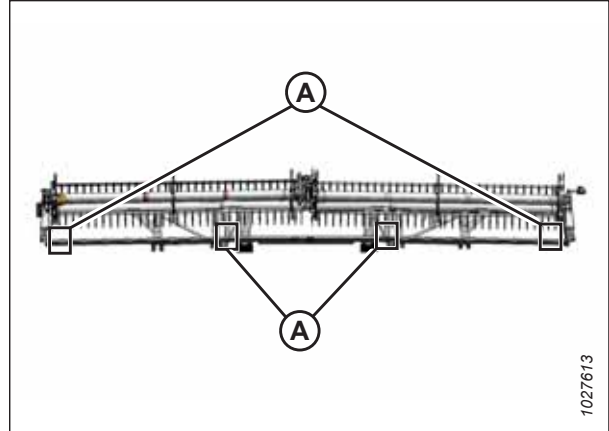

Figure 7.32: FlexDraper® Measurement Locations – Double Reel
- Figure 7.32, page 194 – double reel